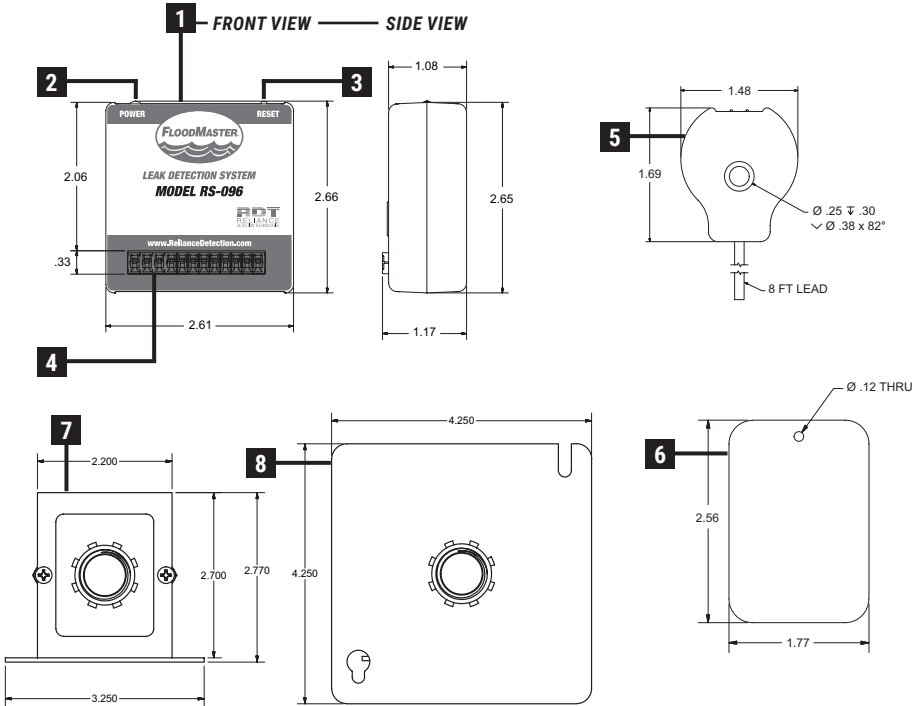

FIGURE 1 –
2. The receiver connector comes prewired with basic connections to the power supply and the sensor. Using an appropriate screwdriver, make any additional desired electrical connections for output contacts or additional sensors per Figure 1. (*Note: additional sensors can be connected to either 6 & 7 or 8 & 9, as wiring space allows.*) Then snap the terminal wiring block into the receiver housing at the mating slot provided.
See Figure 1 for wiring diagram.